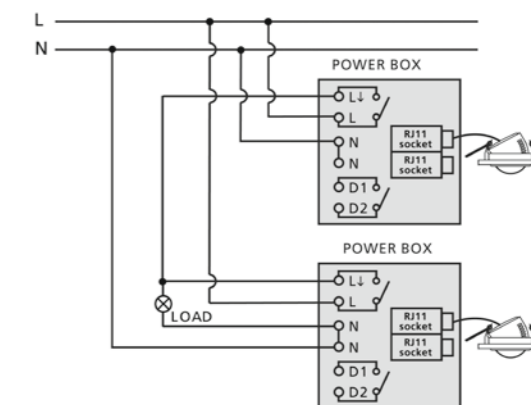

Fig. 4
6.2.2 One load is controlled by two sensors (see Fig. 4).